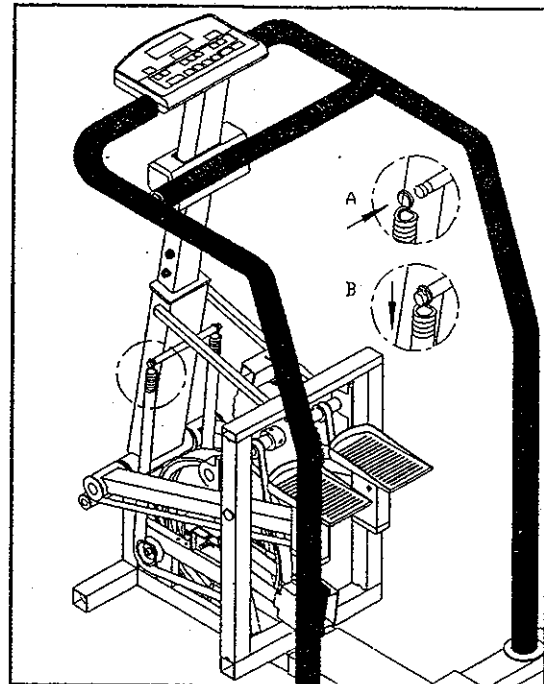

Fig. 17
4. Secure the left spring in its correct position (see Fig. 17).